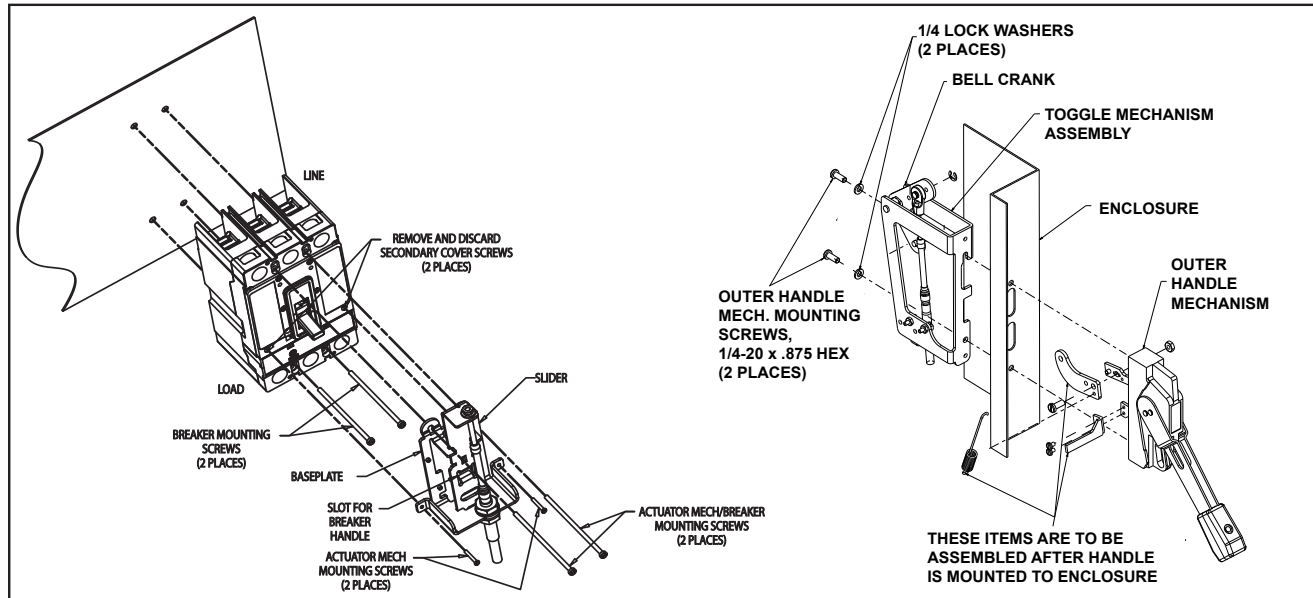

Fig. 1-1 Securing Actuator Mechanism to Breaker and Toggle Mechanism and Handle to Enclosure.
For assembly steps, refer to Fig 1-1, unless otherwise noted
8. Remove and discard the two secondary cover screws shown in Fig 1-1. Verify that breaker is in the trip position. Put outer handle mechanism in the trip position for ease of mounting actuator mechanism.
9. Place actuator mechanism around the front of the breaker. See Fig 1-1. Orient slider so that the slot captures the breaker handle. Fasten securely with the two 4-32 x .75 actuator mech/breaker screws and two 4 x .7 x 100 actuator mech/breaker mounting screws as shown.